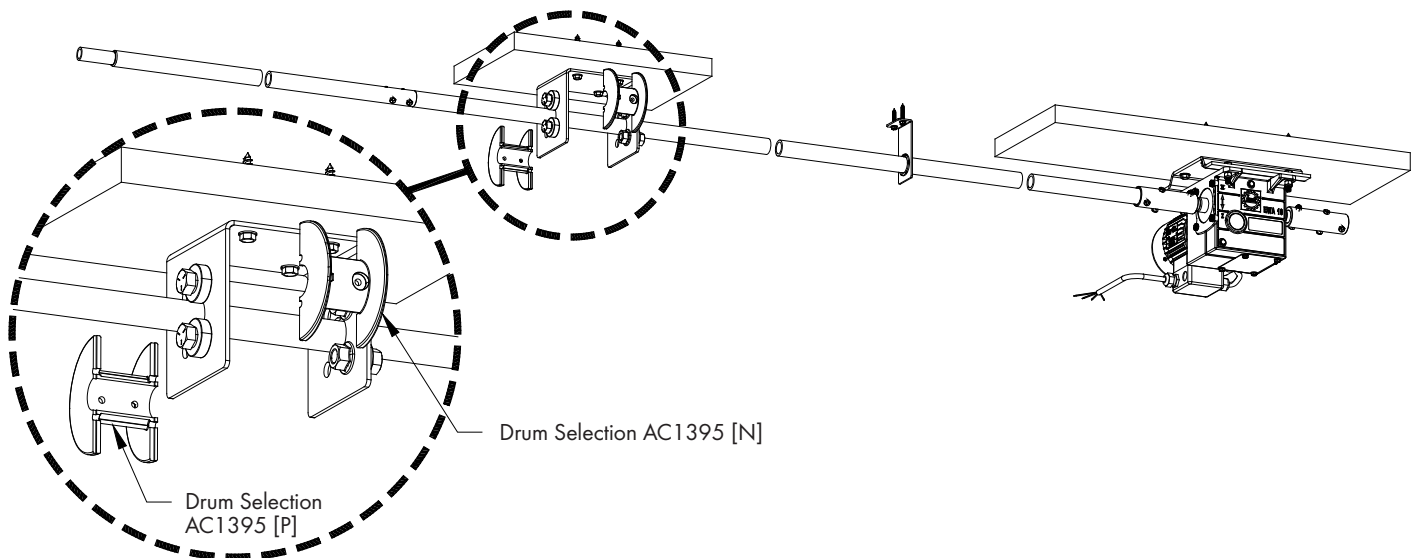

Figure 8
Find (2) AC1395 Drum Section [N] halves and put them together over the pipe in the Ball Bearing Mounting Bracket. While holding these pieces together use a $\frac{3}{32}$ " drill bit and drill through the pipe using the indentations as a drill guide. See Figure 8.